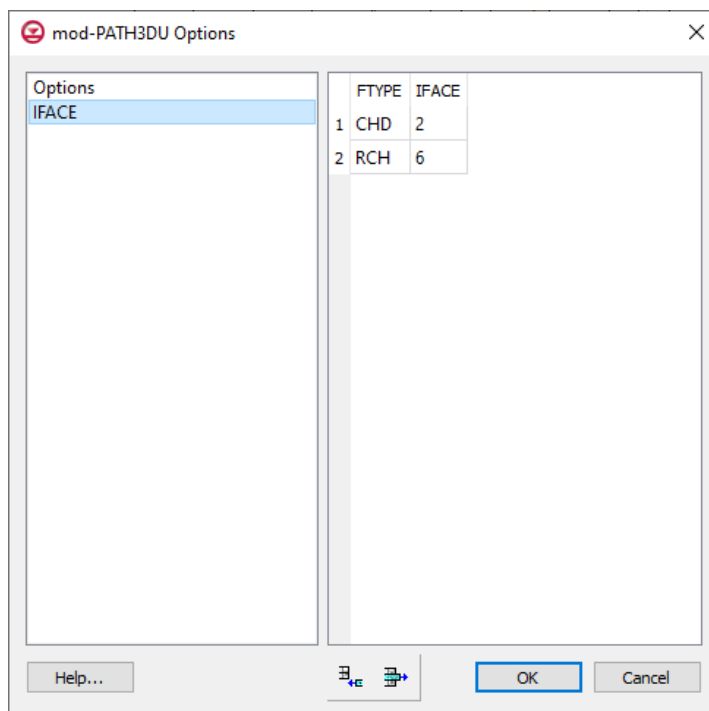

Figure 4 IFACE values
1. Select “IFACE” from the list on the left (Figure 4).
This table (Figure 4) is how IFACE values are specified. Notice there are two rows listed in the table, one for *CHD* and one for *RCH*. The names correspond to the names found in the cell to cell flow (CCF) file. GMS adds these two items automatically with all new mod-PATH3DU simulations. If these types of boundary conditions were not being used, mod-PATH3DU would ignore the IFACE values listed in the table, so it would not be necessary to delete them.